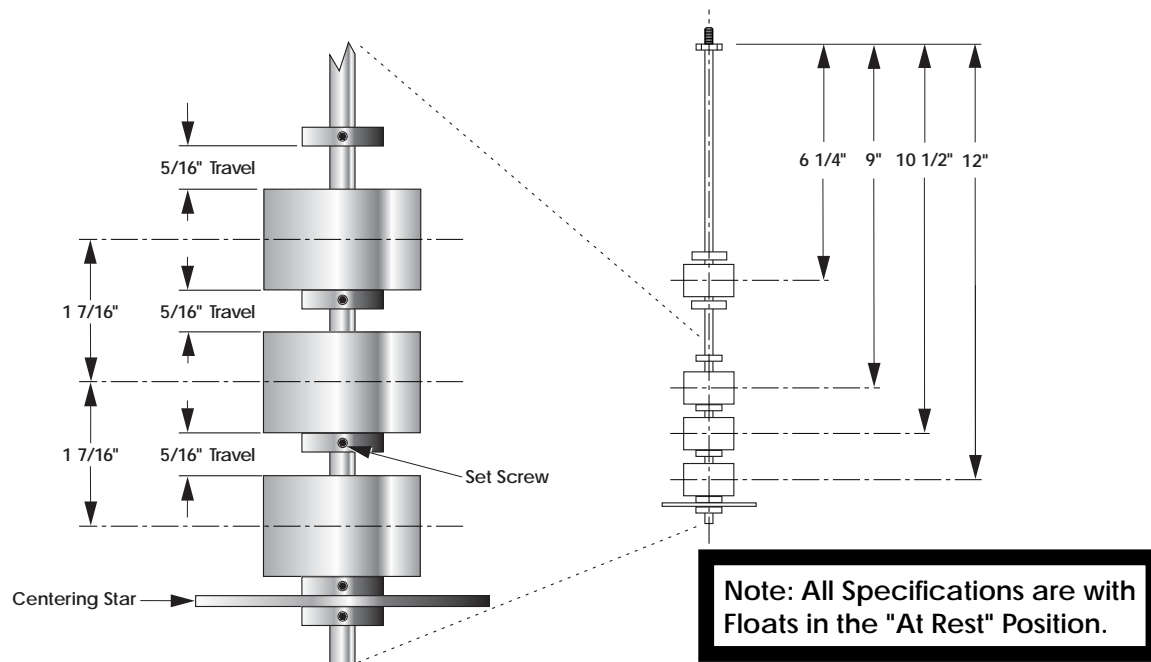

Figure 3: Detail of Typical Float Settings
After removing the top flange and float assembly from the body of the level controller, examine the floats for signs of physical damage. If no visible damage is detected, check to assure that the floats are still in the factory preset position. Figure 3 illustrates the float assembly and lists the normal float positions.
*Note: If the float settings for the particular unit vary from the normal float positions contained in Figure 3, the proper settings for the unit will be listed in the design specifications and C.A.D. drawing supplied with the unit.*